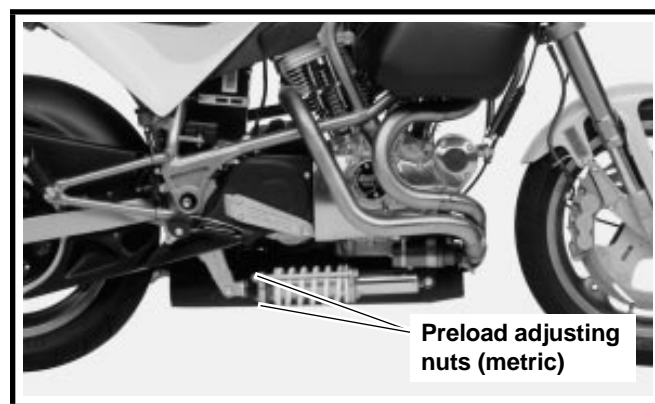

Figure 1-28. Adjusting Rear Preload
9. See Figure 1-28. Change the spring preload by adjusting the mechanical preload adjusting nuts (metric) on the rods that connect the end plates.